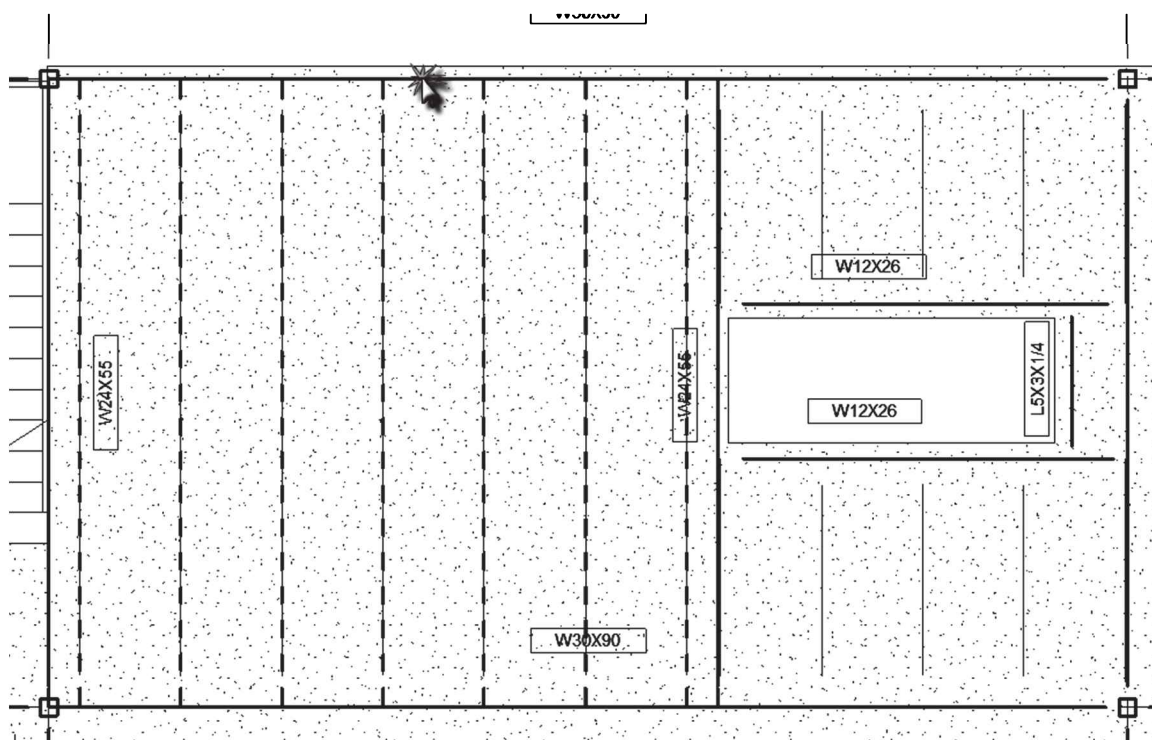

FIGURE 8-6.10 Placing a beam system symbol
23. Hover over the *Beam System* until it highlights with heavy dashed lines as in Figure 8-6.10, and then **click**.